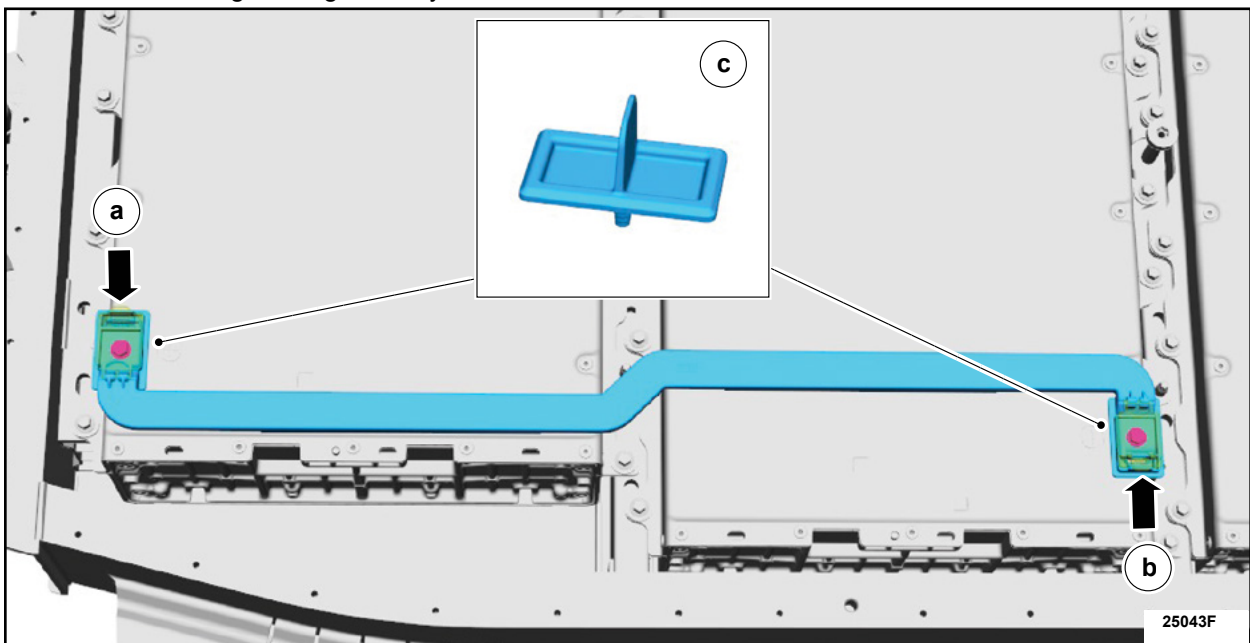

FIGURE 6
8. Remove the bus bar over module 6. See Figure 6.